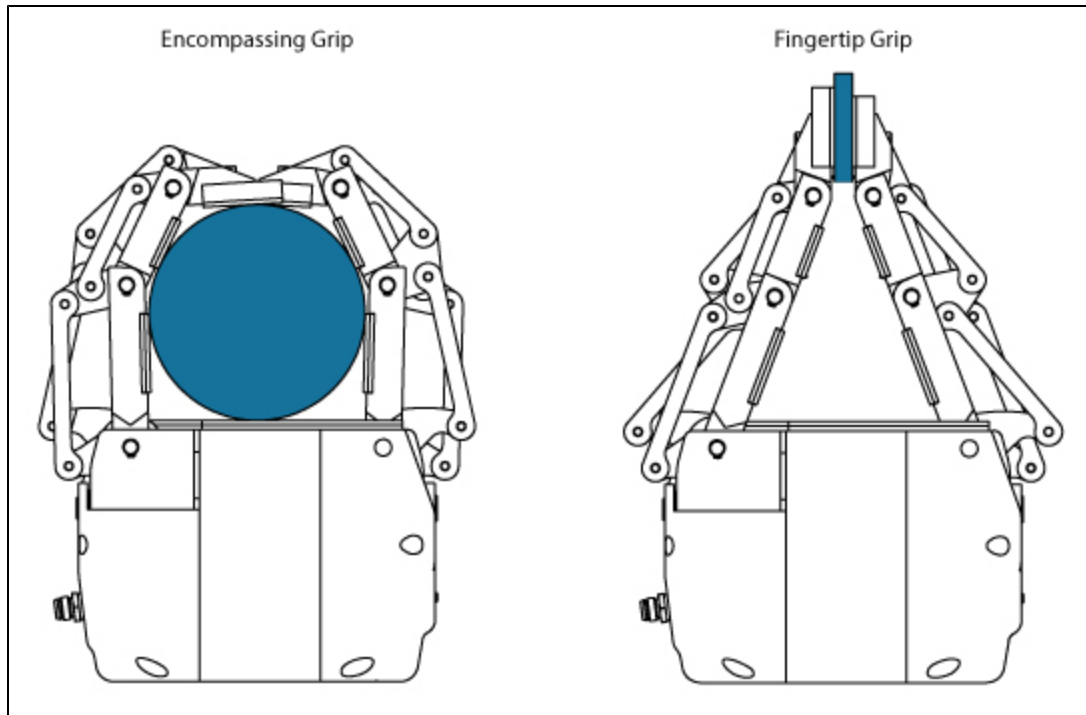

Figure 1.5 – The Two Types of Grip: Encompassing and Fingertip Grips.
- The **Encompassing Grip** is when the fingers surround an object. The object is encompassed within the fingers and the stability of the grip is no longer related to friction. We suggest using the Encompassing Grip whenever possible to increase grip stability. Figure 1.5 shows the two types of grips.